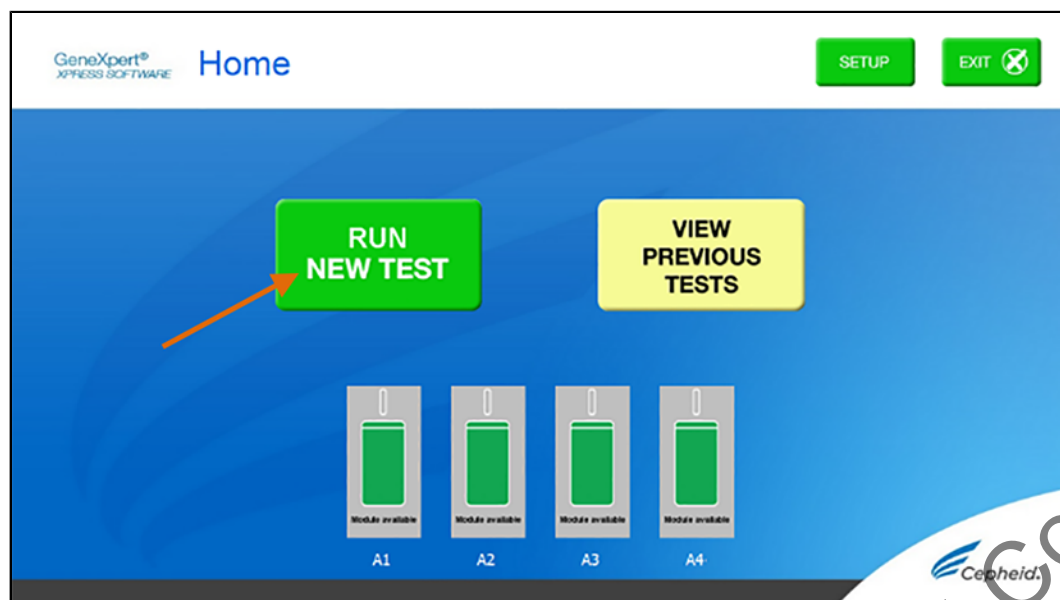

Figure 4. RUN NEW TEST button on Home Screen (GeneXpert Xpress IV screen shown)
2. Touch the **RUN NEW TEST** button on the **Home** screen (see Figure 4) to run a patient specimen or an external control.